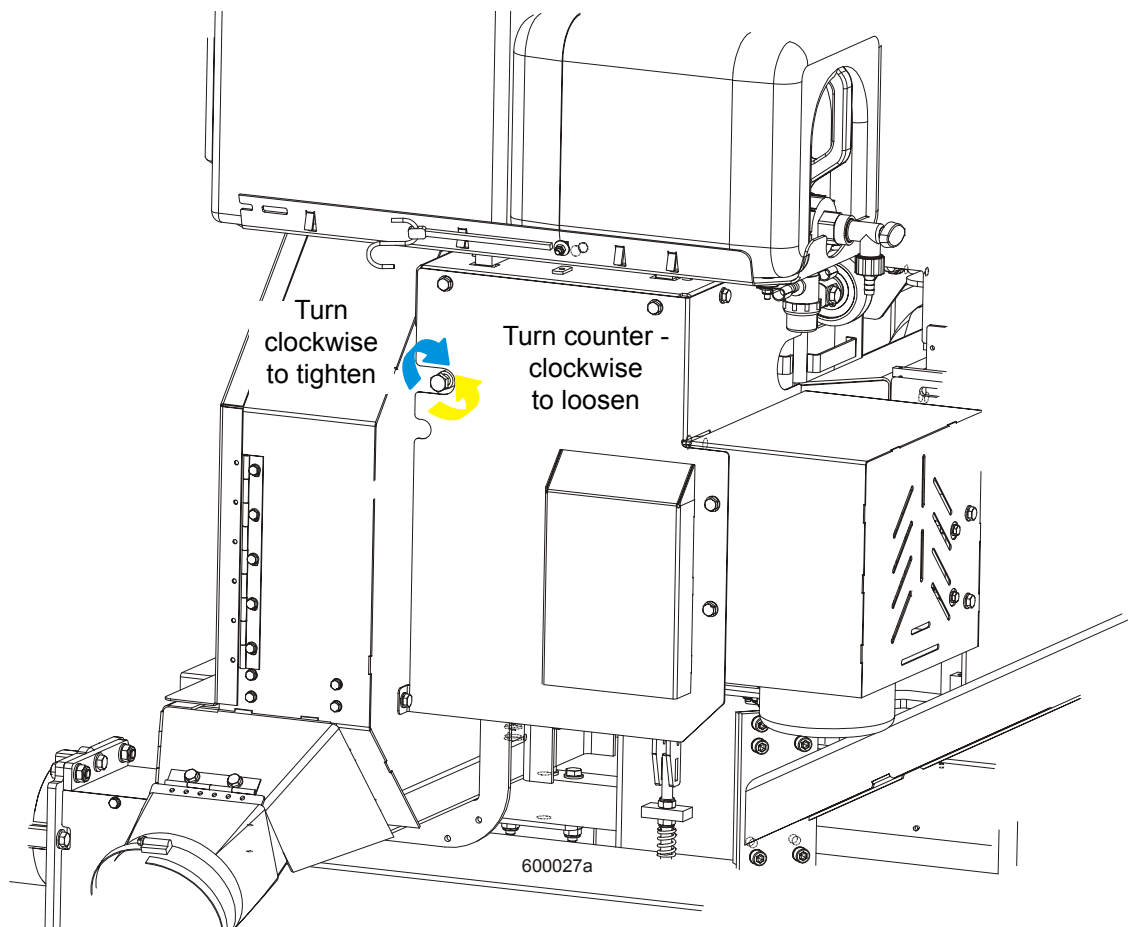

FIG. 3-4
**See Figure 3-4.** Adjust proper drive belt tension using the bolt located between the drive side wheel cov-